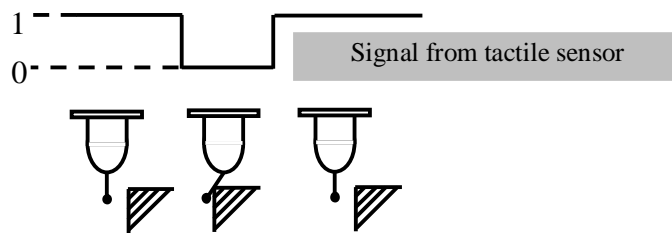

Figure 5.13
5.3.5.2 An illustration showing the tactile sensor operation is given in Figure 5.13.